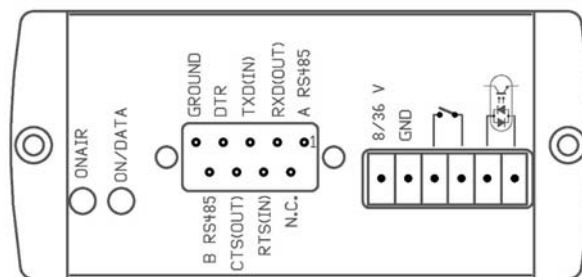

FIG. 1
- **RS232** and **RS485** interfaces both on the **D-shell female connector**. The interface selection is achieved by configuration software trough electronic switch. As shown in the following Fig. 1 the RS 232 interfaces utilises the connector pins from 2 to 8 while the RS 485 utilises the pins Nos. 1 and 9.